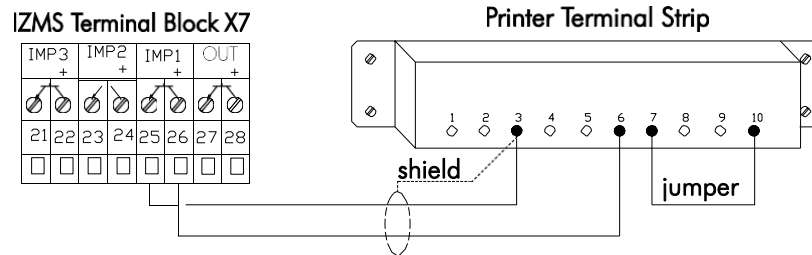

Figure 3-15. Veeder-Root Series 7690 Ticket Printer Signal Wiring Configuration
- Veeder-Root Series 7690 Ticket Printer, AMS P/N: TP-769 (Figure 3-15)